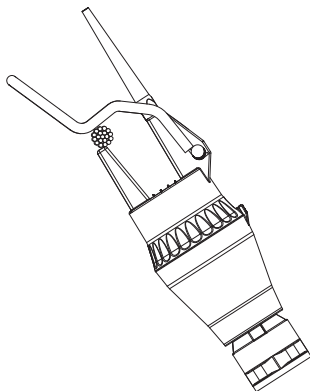

Figure 4 WSO-11 Installation Step 3
- Step 3. Apply force on the spring-loaded clamp by pulling downward on the WSO-11 (see *Figure 4*).